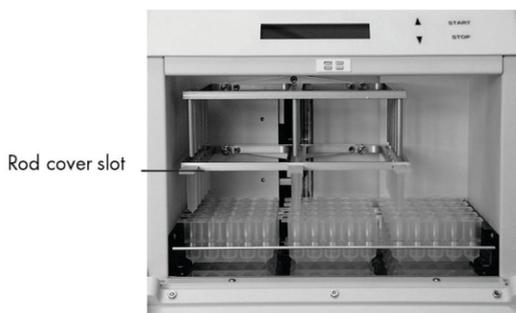
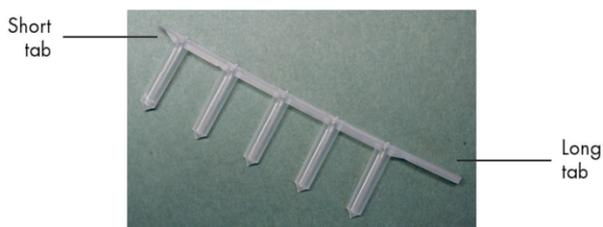

Figure 2. Rod cover slot.
Figure 3. Tabs of the 5-rod cover.
6. Load up to three 5-rod covers into the rod cover slots (Figure 2 and Figure 3). There must always be a 5-rod cover above a column of 5-tube strips.